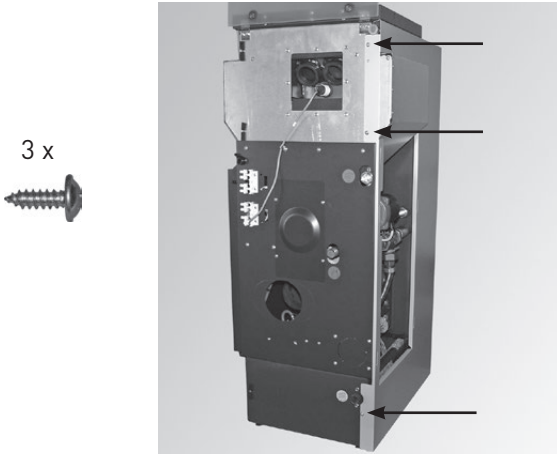
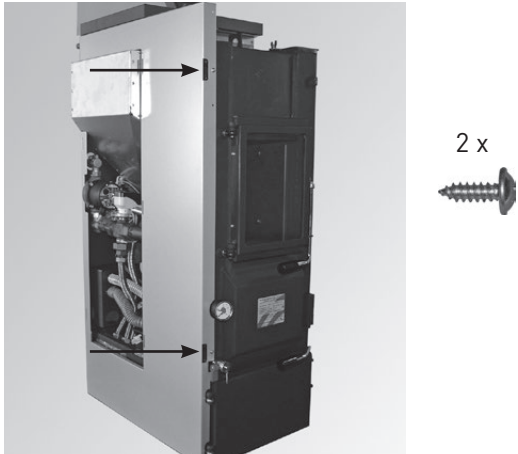

Fig. 30 Screwing the side panel on at the rear at 3 points
Fig. 31 Screwing the side panel on at the front at 2 points
- Secure the “left side panel” (part 2) to the boiler at the rear using 3 screws – Fig.30 and front using 2 screws – Fig. 31.